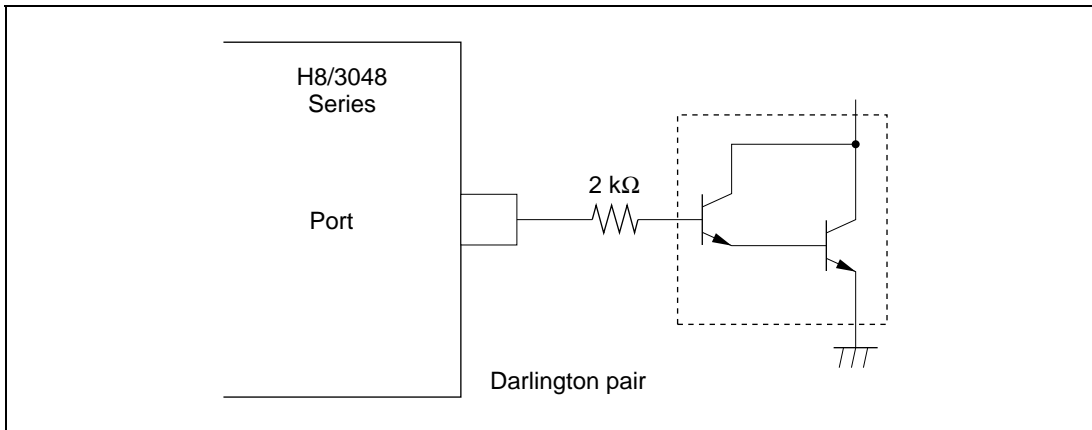

Figure 22.1 Darlington Pair Drive Circuit (Example)
2. When driving a darlington pair or LED, always insert a current-limiting resistor in the output line, as shown in figures 22.1 and 22.2.